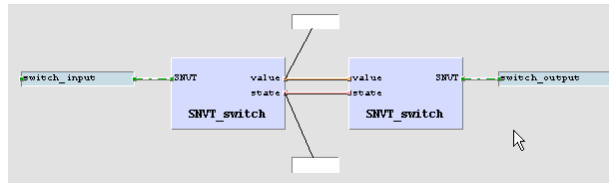

Figure 45: Online Test fields
- Place the fields above and below the drawing as shown in Figure 45, then press the **Save** button to save your changes.